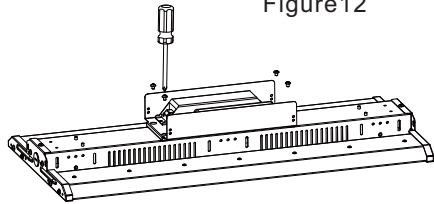
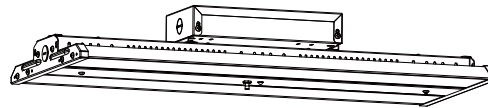

Figure14
Figure15
Step2. Open the cover of the backup driver box, install the backup driver box at the corresponding position on the back of the fixture (Figure 14), connect the wires correspondingly according to the marking instructions on the wire, mount the buttons and indicators of backup driver on the front cover of the fixture (Figure 15), then fix the cover to the fixture.